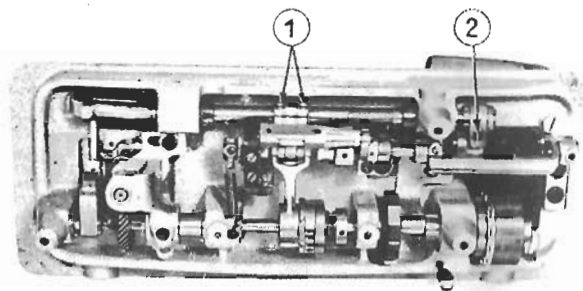
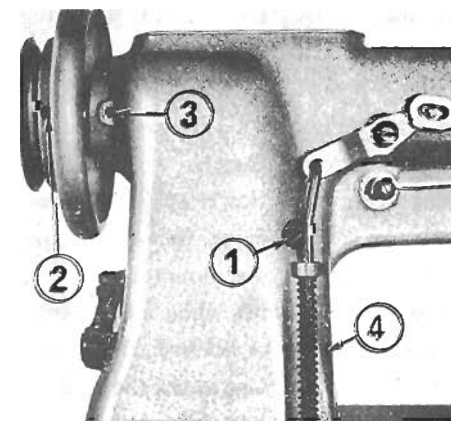
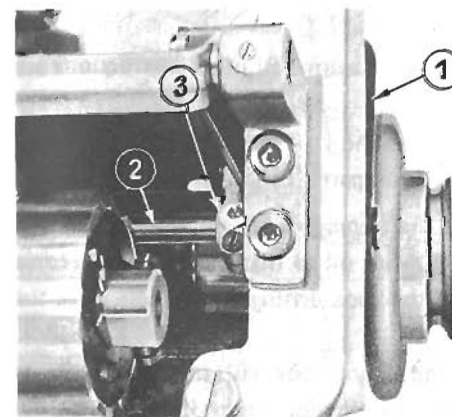

Fig. 18
Fig. 24
Fig. 25
When the stitch length is set at "0" and if the relative position of walking bar with the presser bar is not right, loosen the 2 screws of the feed rock shaft crank (Fig. 18 133), match the clearance between the presser bar and the walking bar at 8.54 mm (21/64") and then tighten the screws.
Also, to set the correct relative position of the needle bar frame with that of the feed dog, first, set the stitch length at "0", then loosen the screw (Fig. 18 ②) of the driving rod crank and loosen the screw of the needle bar shaft rear crank from the hole (Fig. 25 ①) in the back of the arm. And further, when the needle comes near the center or front half of the hole of the feed dog, and holding this position make the driving rod crank parallel to the surface of the bed and tighten the 2 screws.
Remove the face plate and the needle bar frame, insert a screw driver into the hole (Fig. 24 1), loosen the screw of the needle bar frame rock shaft crank and take out the needle bar frame rock shaft.
Loosen the 2 set screws of the belt groove of the hand wheel (Fig. 24 2 ) and pull out the hand wheel. Then, loosen the main shaft rear bushing set screw (Fig. 24 3 ), remove the top cover, loosen the 2 screws of the main shaft rear bushing at the right side of the upper sprocket wheel and draw out the main shaft rear bushing from the frame.
Then, remove the reverse feed control lever (Fig. 25 1 ). To do this, remove the tension spring which is hooked to the top cover, tilt the machine and by loosening the 2 screws (Fig. 25 3 ) of the reverse feed control lever shaft, remove the screw (Fig. 24 4 ) of the reverse feed control lever shaft. After that, pull out the lever shaft together with the reverse feed control lever.